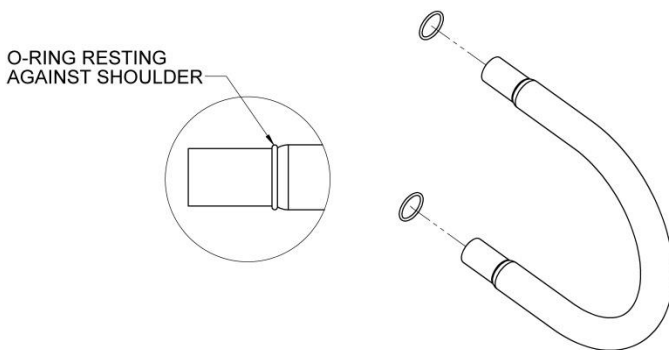

FIG. 4.7
- 4.4.4. For the Pathway[®] Modular Swaged Handrail Loop, install an O-ring over each loop end and snug up to loop shoulder (FIG. 4.7).